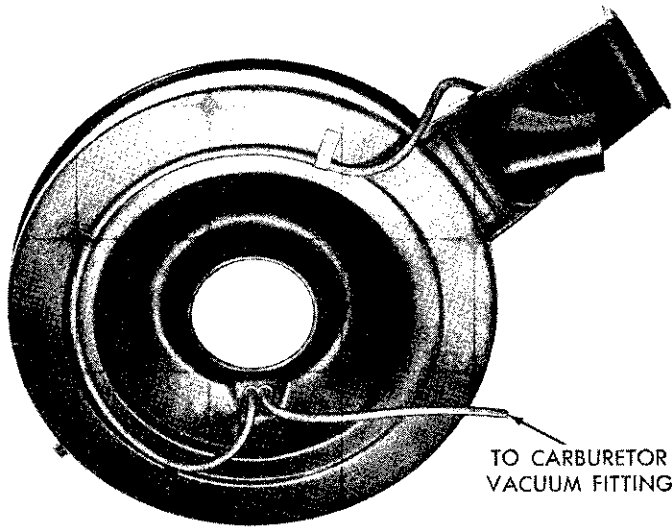

Fig. 3—Routing of Vacuum Hoses Single Snorkel Air Cleaner
(1) Make sure all vacuum hoses (Figs. 3 and 4), and the stove to air cleaner flexible connector are properly attached and are in good condition.
(2) With a cold engine and ambient temperature in the engine compartment of less than 100 degrees F., the heat control door (valve plate) in the snorkel should be in the **up position** or **heat on position**.
(3) With the engine warmed up and running, check the air temperature entering the snorkel or at the sensor. When the air temperature entering the outer end of snorkel is 105 degrees F. or higher the door should be in the **down position** (**heat off**).
(4) Remove the air cleaner from the engine and allow it to cool down to 90 to 95 degrees F. With 20" Hg vacuum applied to the sensor the door should be in the **up position** (**heat on position**). Should the door not rise to the heat on position, check the vacuum diaphragm for proper operation.
(5) Check the vacuum diaphragm by applying vacuum directly to the vacuum diaphragm (with Tool C-3707 and vacuum pump C-4081) with a vacuum gauge in the line and a bleed valve to control the vacuum
(3) Install vacuum hoses (Figs. 3 and 4).
(4) Install air cleaner and test operation. Refer to Exhaust System, Group 11, for service procedures on Air Heaters.